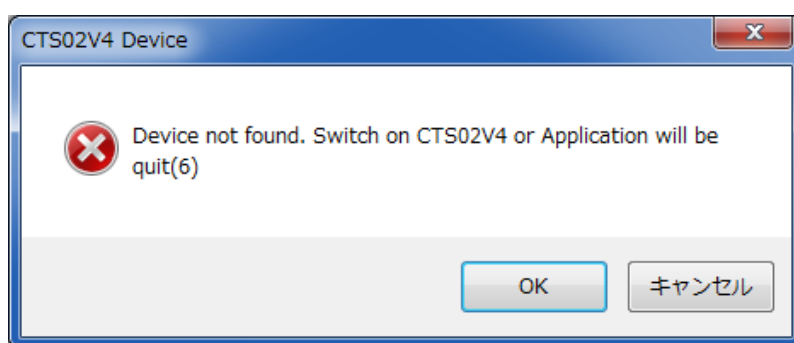

Fig.4-6 Warning Dialog
- Warning dialogue will be displayed as shown below (See Fig.4-6).
- When click [キャンセル (cancel)] button, the initial screen will change a little and [Connect to CTS02V4] button ⑧ will appeared in [SET UPCTS-02V4] list shown on the extreme right.